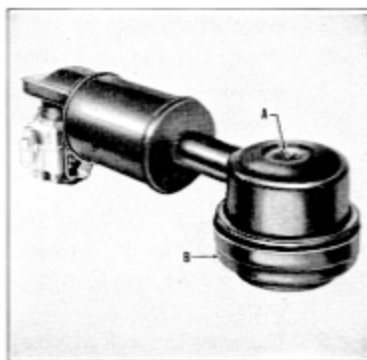

Figure 15
1. Unscrew wing bolt (A) while holding lower Section (B) (Figure 15), remove lower Section (B).